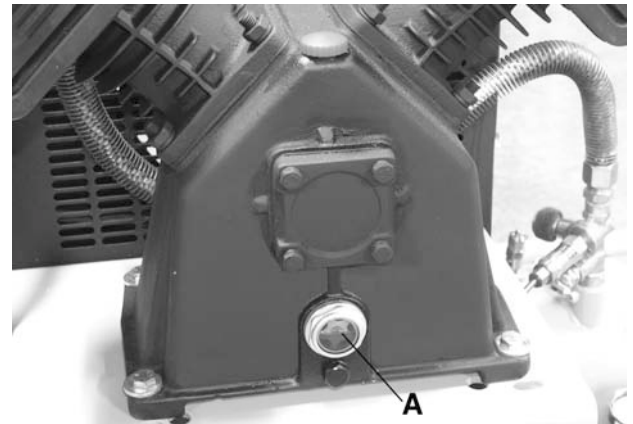

FIGURE 1
- 1) Make sure the oil level in the crankcase reaches the centre dot of the oil sight glass (A) Fig.1.If needed, refer to maintenance section in this manual for instructions on filling the crankcase with oil.